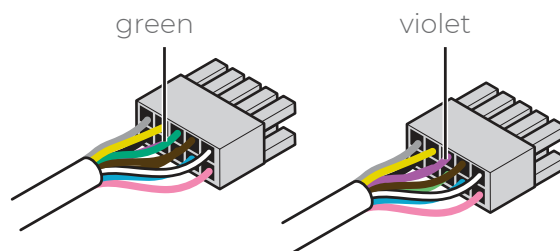

Figure 1
- 2 If the USB stick is already FAT32 formatted, verify the CONTROL/USB board connection cable according to the following the **Figure 1**.